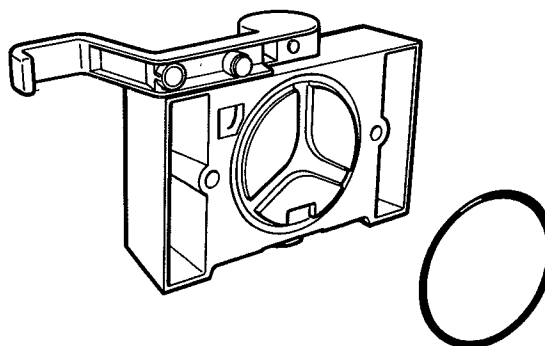

Figure 32. Front Door "O" Ring Removal
- K. Remove the large front door "O" ring from the back of the front door. (See Fig. 32.)